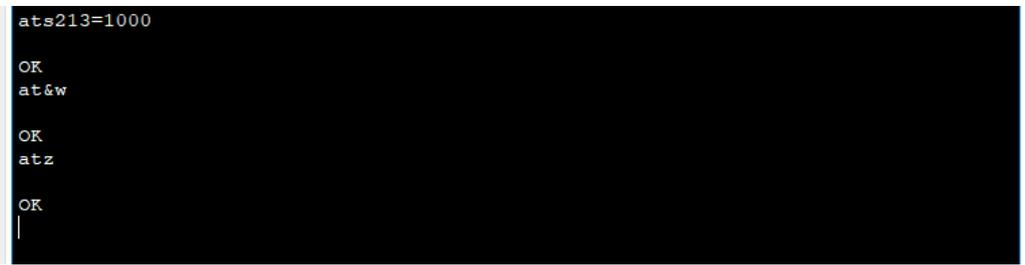

Figure 5: AT commands sent and responses
- Change the UART Idle Time by sending the command **ATS213=1000** and press **Return**. Response is **OK**. See Figure 5.
- Reset the device by sending the command **ATZ** and pressing **Return**. Response is **OK**. Refer to Figure 5.